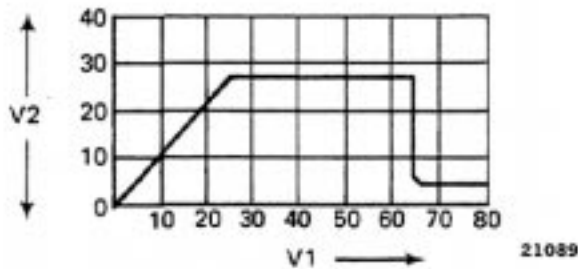

Fig. 23 - Voltage At Anode Of D1
28. Slowly increase supply voltage (V1) to regulator from 0 to 80 volts. Observe both the power supply voltmeter and voltmeter connected to D1. Voltage (V2) at anode of D1 should be as shown in Fig. 23.